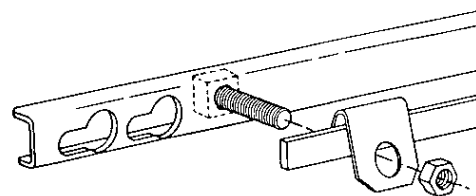

FIGURE 33- PROPER ALIGNMENT OF PARTS
18.03 For external bonding, the bolt, bonding clip, and nut must be applied to the front (keyhole) LOCKBAR Assembly before mating it with the back LOCKBAR Assembly. Special holes are provided on either side of the front LOCKBAR Assembly for this purpose. The bolt head is applied inside the LOCKBAR Channel. The bonding clip and nut are applied to the bolt on the outside LOCKBAR Assembly face. Refer to Figure 33 for proper alignment of parts.